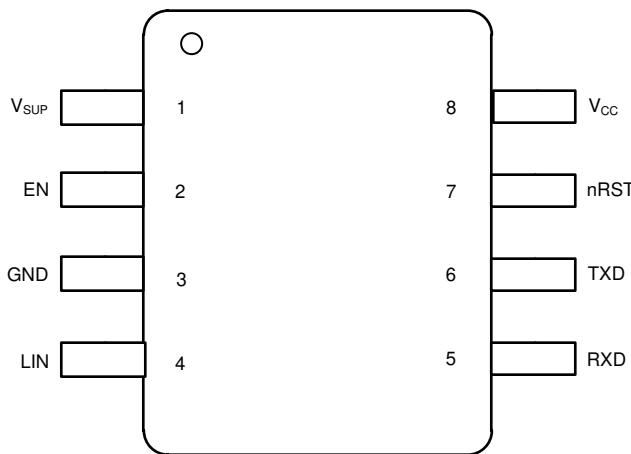

Figure 1-2. Pin Diagram (SOIC (D) Package)
1.4.1 8-pin SOIC (D), VSON (DRB) and HSOIC (DDA) Packages
Figure 1-2 shows the pin diagram for the 8-pin SOIC (D) package. Figure 1-3 shows the pin diagram for the 8-pin VSON (DRB) package. Figure 1-4 shows the pin diagram for the 8-pin HSOIC (DDA) package. For a detailed description of the device pins please refer to the 'Pin Configuration and Functions' section in the TLIN10283-Q1 and TLIN10285-Q1 datasheet.